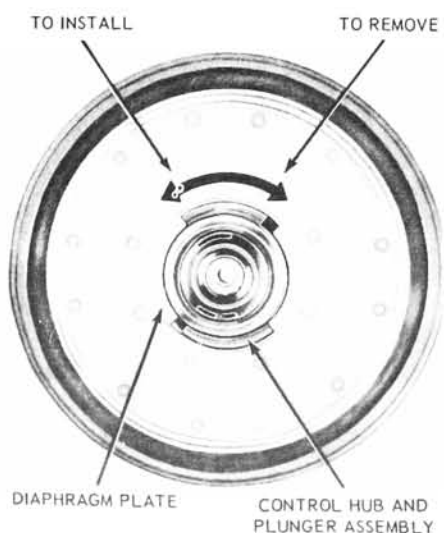

FIG. 25—Removing or Installing Control Hub and Plunger Assembly
and then remove the tail stock and O-ring from the diaphragm (Fig. 25).
4. Assemble the tail stock and the plunger and control hub assembly to the diaphragm, and turn the hub counterclockwise to secure these parts together (Fig. 25).